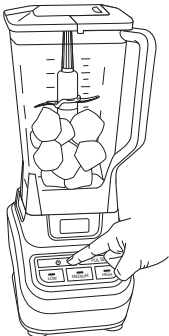

Fig. 6
- 12 When you have reached your desired consistency, stop the appliance by pressing the power button (⏻) and wait for the Stacked Blade Assembly to stop turning. (Fig. 6)